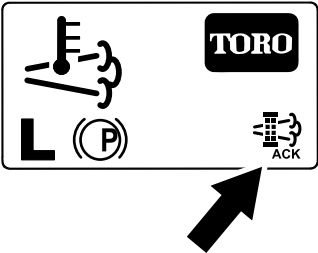

Figure 67
- The InfoCenter displays the home screen and the regeneration acknowledge icon (Figure 67) appears in the lower right corner of the screen as the regeneration processes.